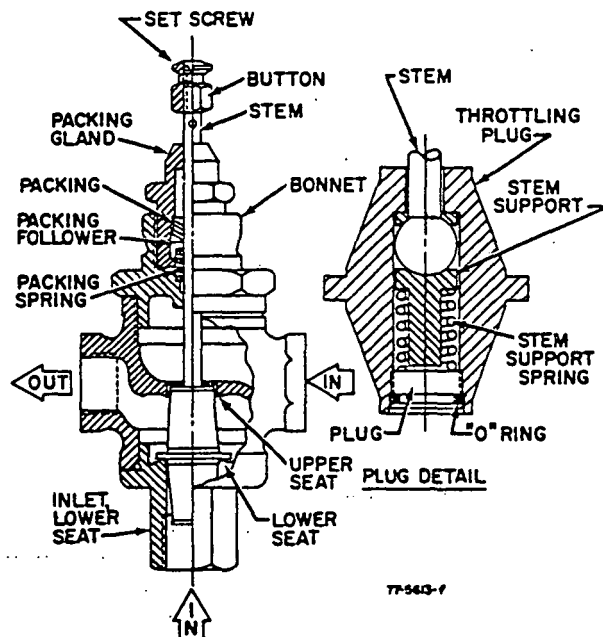

Fig. 6—Cutaway of Typical V5013A Screwed Type Body.
- b. Screwed Body 3-Way Valves (V5013A) – Lower port must be unscrewed from body to remove stem and plug. This requires removing valve from line (Fig. 6).